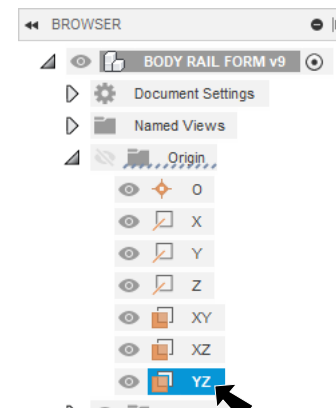

Fig. 10
- Step 2. On the Solid tab **SOLID** click **Create Sketch**  in toolbar and click **Right plane**  in canvas (don't click Blank body), **Fig. 10** or **YZ Plane**  in Browser, **Fig. 10**.